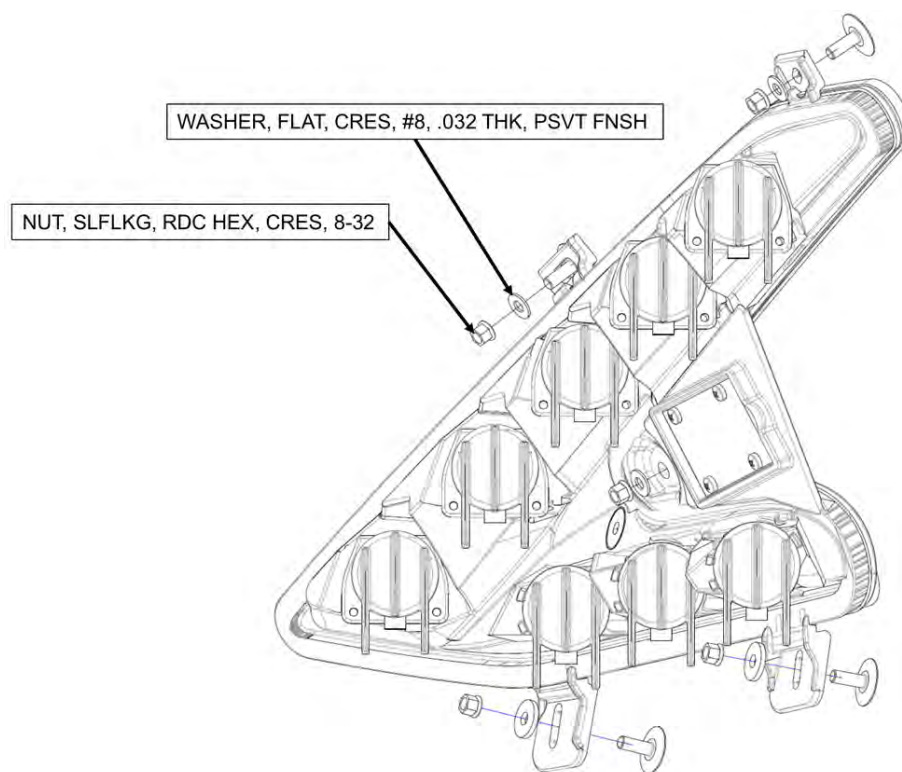

FIGURE 7-15
1. Install LH and RH light assembly onto existing studs as shown using retained washers and nuts. See Figure 7-15.